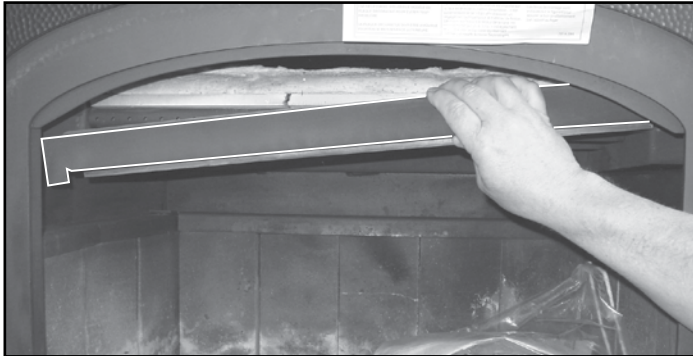

Figure 32.1 Removing Baffle Protection Channel
2. Remove the baffle protection channel by turning it down and pulling it out of the firebox. See Figure 32.1.